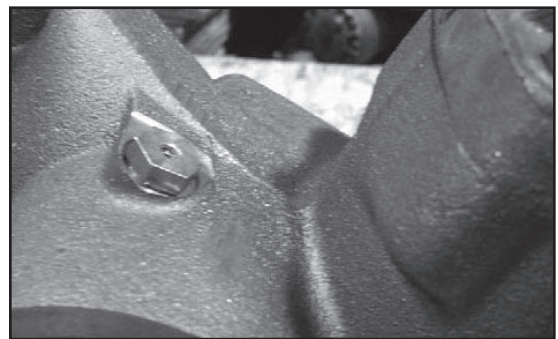

Figure 19. Bleeder Plug with Set Screw.
- a. Locate the bleeder plug on the sector housing (Figure 19). It resembles a 3/4" bolt head.